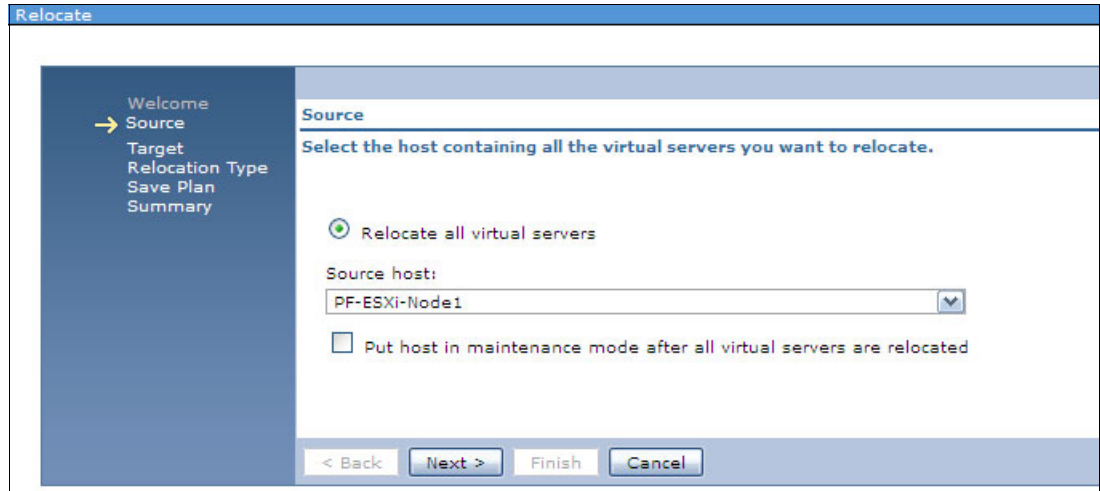

Figure 11-33 Relocate Source window
2. Verify the source host and click **Next**, as shown in Figure 11-33. If necessary, you can select “Put host in maintenance mode after all virtual servers are relocated”.